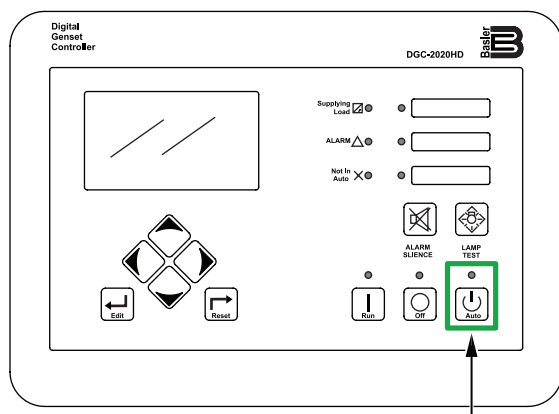

Figure 55. Digital Controller (Auto Button)
1. On the first generator, press the **Auto** button (Figure 55) on the digital controller. After the preheating process has completed, the engine will start automatically and the circuit breaker will turn **ON**.